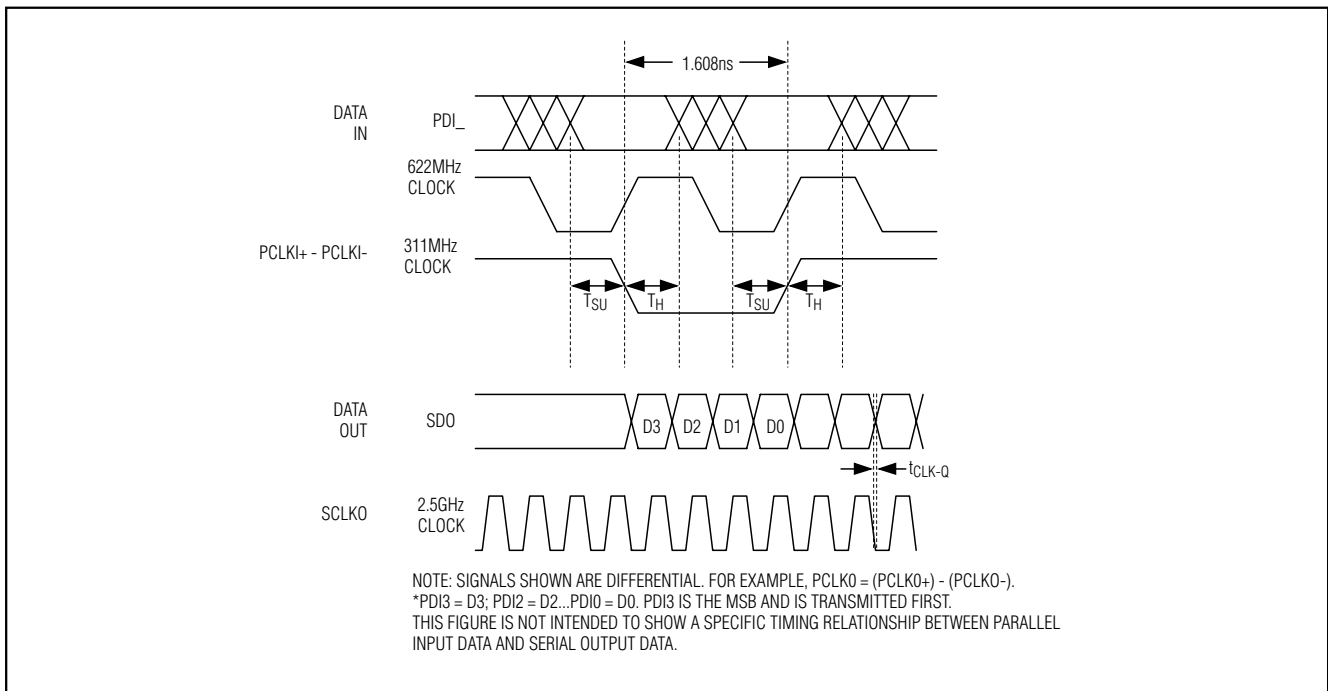

Figure 1. Timing Diagram
**Note 4:** In 622MHz clock mode, the parallel data is clocked in by the rising edge of the 622MHz/666MHz parallel clock input. In the 311MHz clock mode, the parallel data is clocked in on both the rising and falling edges of the clock. The parallel input setup and hold time increases by 60ps if the duty cycle is between 48% to 52% in 311MHz mode (Figure 1).